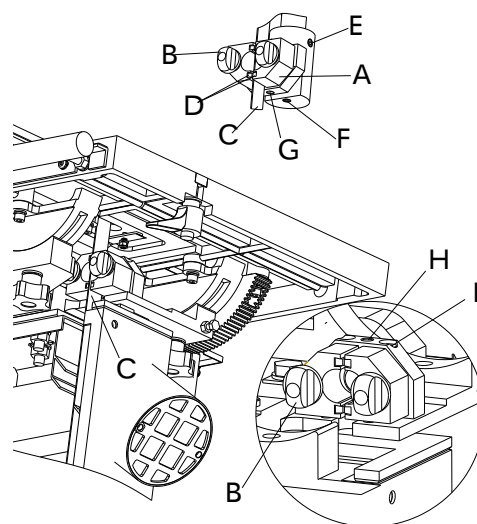

Fig. 12
1. Adjust the blade guide, as shown in fig. 12 loosen knob(B) and then adjust the blade guide (C) the article about two porcelain(D) and parallel blade guide(C), then lock knob(B), using a wrench to loosen screw (G)adjust the article round porcelain, screw (F) is to adjust the saw before and after the whole movement and swinging, loosen (E)adjust the steering, all must lock all screw after the adjustment..